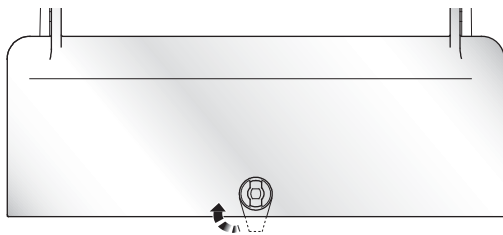

**Fig. 2**
1. Remove wall mounting bracket from the back of the heater by depressing the spring latch at the top of each bracket - see **Fig. 2**.
To release heater from the wall bracket for cleaning or redecoration, depress latch on both brackets (see **Fig. 2**) and hinge forward.